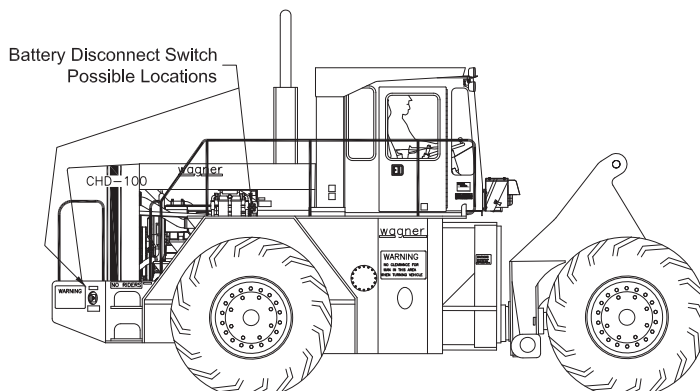

Figure 6-7 Battery Disconnect Switch Locations
4. Set the battery disconnect switch to OFF (see Figure 6-7).